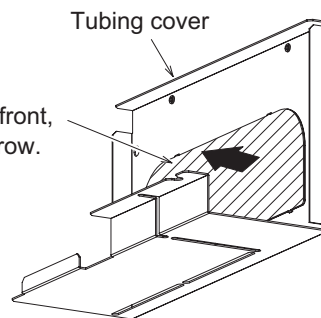

Fig. 2-23a
- (1) If the tubing is routed out from the front, punch out the slit part (  ). (Fig. 2-23a )